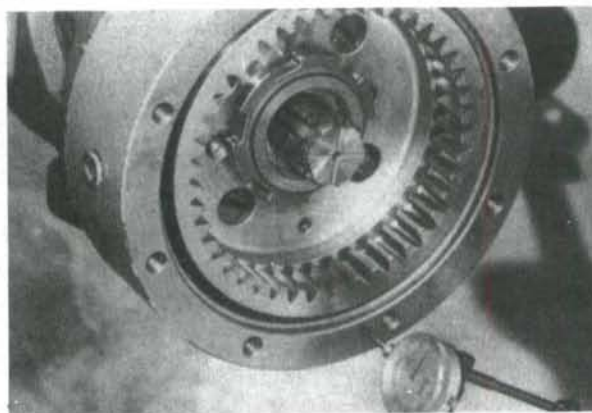

Fig. 10—To set stub axle bearing preload, mount a dial indicator so probe contacts face of wheel hub. Measure end play and refer to text.
11. WHEEL HUB BEARING PRELOAD. To set stub axle bearing preload, install shims (5—Fig. 7) having a total thickness of 2 mm (0.080 inch) next to spacer (6). Install planetary ring gear (3) and nut (1) minus tab washer (2). Using special spanner wrench (CAS-1607), tighten nut (1) to 203 N·m (150 ft.-lbs.) torque. Mount dial indicator so point of probe contacts outside face of hub. See Fig. 10. Measure and record amount of end play. Correct amount of bearing preload is 0.08-0.13 mm (0.003-0.005 inch). Subtract shims equal to measured end play plus 0.10 mm (0.004 inch) from previously installed shim pack to obtain correct bearing preload.